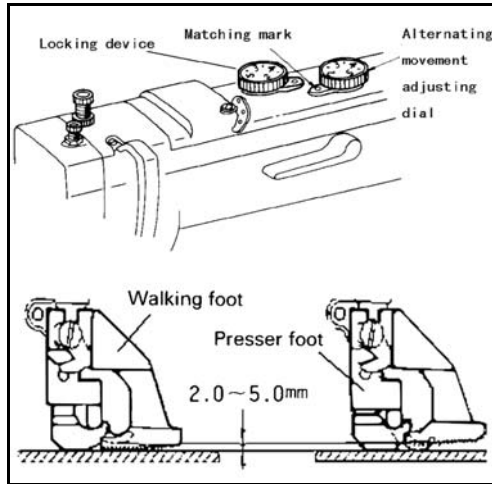

Fig.25
- 1) Adjustment of alternating movement (Fig25):